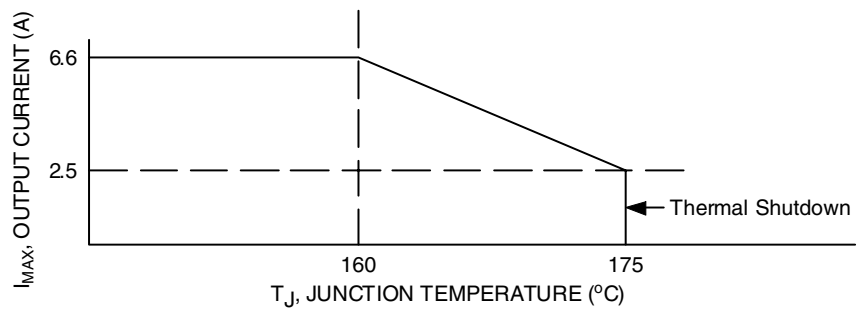

Figure 7. Maximum Output Current Limiting Versus Temperature
- Increasing output currents will become limited at 6.5 A. Hard shorts will breach the 6.5 A limit, forcing the output into an immediate tristate latch-OFF. See Figure 5 and Figure 6. Output current limiting will cause junction temperatures to rise. A junction temperature above 160°C will cause the output current limit to progressively "fold-back" (or decrease) to 2.5 A typical at 175°C where thermal latch-OFF will occur. See Figure 7.
The PWM current limitation value is dependent upon the device junction temperature. When $-40^{\circ}\text{C} < T_J < 160^{\circ}\text{C}$, I_{MAX} is between 5.2 and 7.8 A. When T_J exceeds 160°C, the I_{MAX} current decreases linearly down to 2.5 A typical at 175°C typical (or where the device reaches T_{LIM}) and overtemperature shutdown occurs. See Figure 7. This feature allows the device to remain operational for a longer time but at a regressing output performance level at junction temperatures above 160°C.